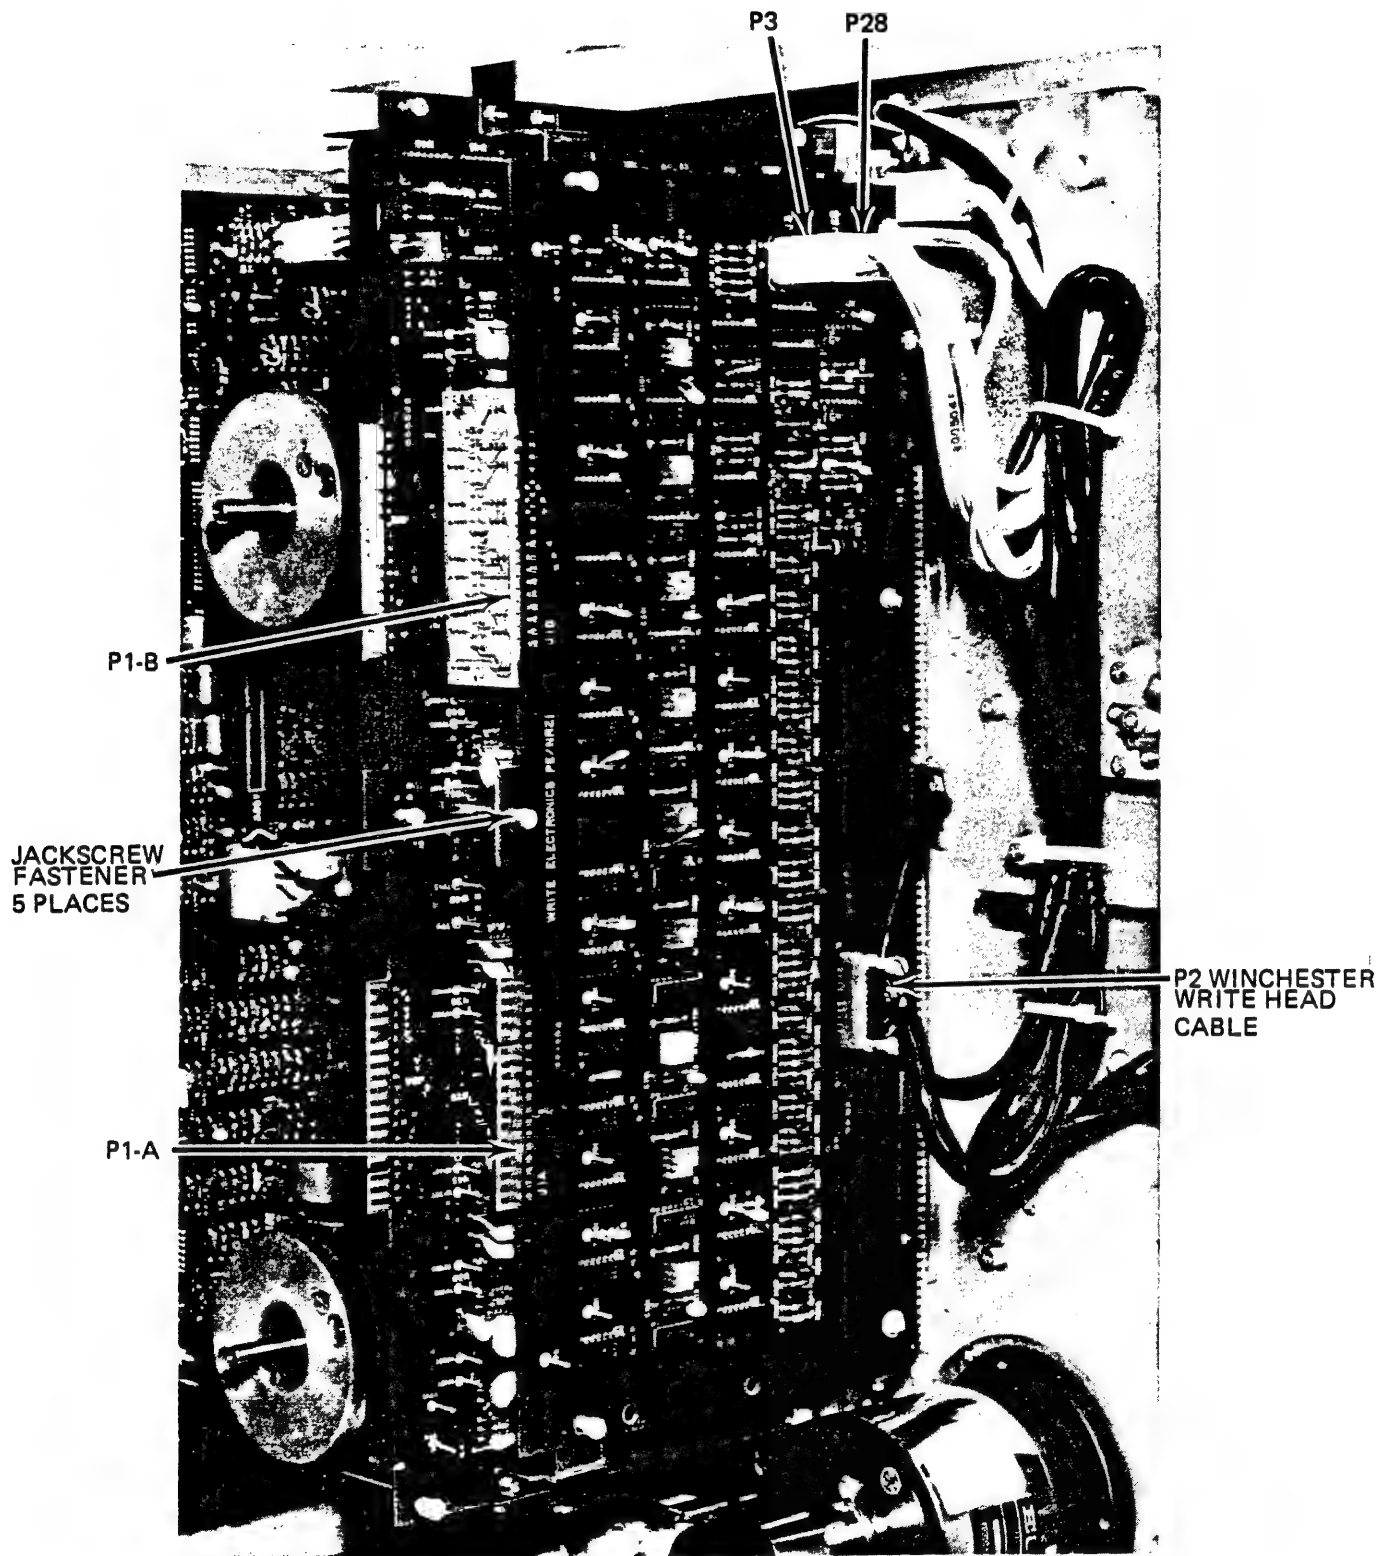

Figure 4-7. Write Data Electronics PWB Removal, Dual-Density System
4.3.2.2.1 Write Data Electronics PWB. To remove the Write Data Electronics PWB, see Figure 4-7 and use the following procedure:
- d. Loosen four captive screws which hold PWB to spacers or brackets; then, slide PWB support bracket along slider guide and off end as shown in Figure 4-7.